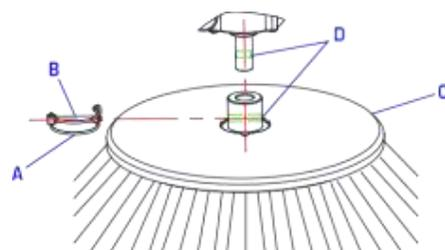

Figure8
1) Drive the machine on a level ground and release the pedal (2) and stop the machine.
2) Turn the ignition key (71) to "0".
3) Release the spring (A, fig. 8), remove the pin (B) and the brush (C) from the gearmotor shaft.
4) Install the new side brush on the gearmotor shaft, insert the pin (B, fig. 8) in the holes (D, fig. 8), and engage the spring (A, fig. 8)